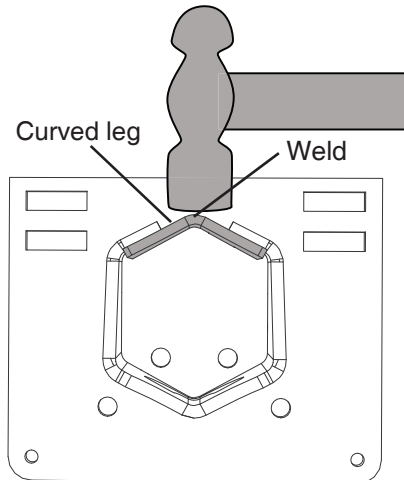

fig. 4
2. Install the swivel elbow fitting (V) into the top of the bellows finger tight. Tighten the swivel fitting one and a half turns.
3. It will be necessary to break off the curved leg that is tack welded to the lower bracket (fig. 4).
4. Clamp the bracket in a vise or set the bracket on the ground and hit the curved leg with a hammer, breaking it off (fig. 4). Grind or file the weld flush to the lower bracket and discard the curved leg. Note: If the leg does not break off, it may be necessary to grind some of the weld off to get it to break. A hack saw will work if a grinder is not available.